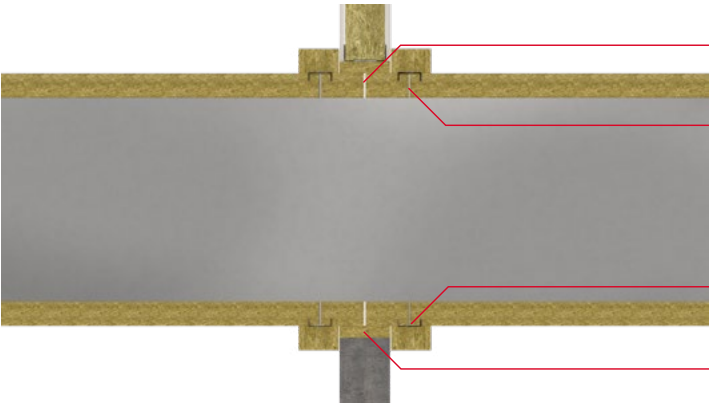

Figure 10
- 1. A joint in the DuctRock Slab must be accommodated at the centre point of the aperture, as shown in Figure 10.
- 4. Before applying the u-profile to the DuctRock Slab slits must be cut into the insulation to allow the profile sides to penetrate the insulation (Figure 10). The u-profile can be attached to the ductwork using 100mm self-tapping screws. 4No to the top and bottom slabs and 2No to the vertical slabs.